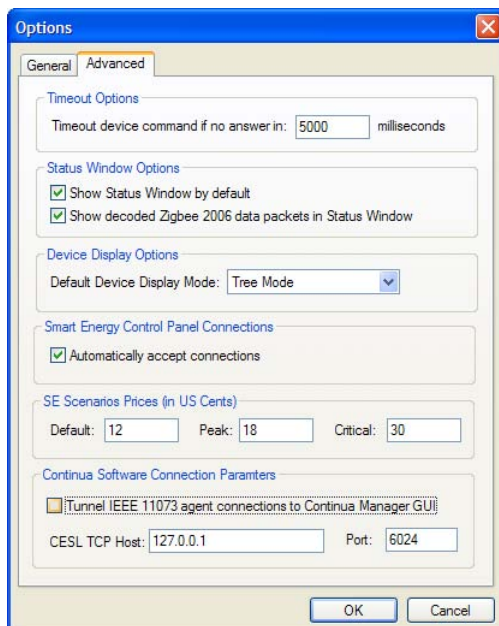

Figure 22. ZeD Options
4. From the ZeD menu bar choose Tools -> Options and choose the Advanced tab in the Options dialog as shown in Figure 22.